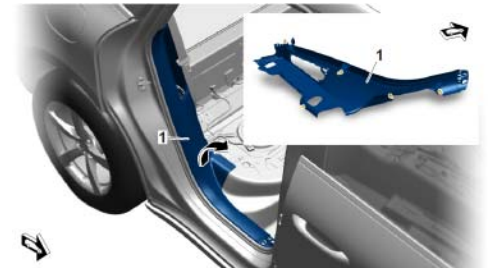

Figure 3
- 1.7 Remove rear (inner) door sill trim at the right (⇒ *Figure 3*, ⇒ *Workshop Manual '680519 Removing and installing rear inner door sill trim'*).